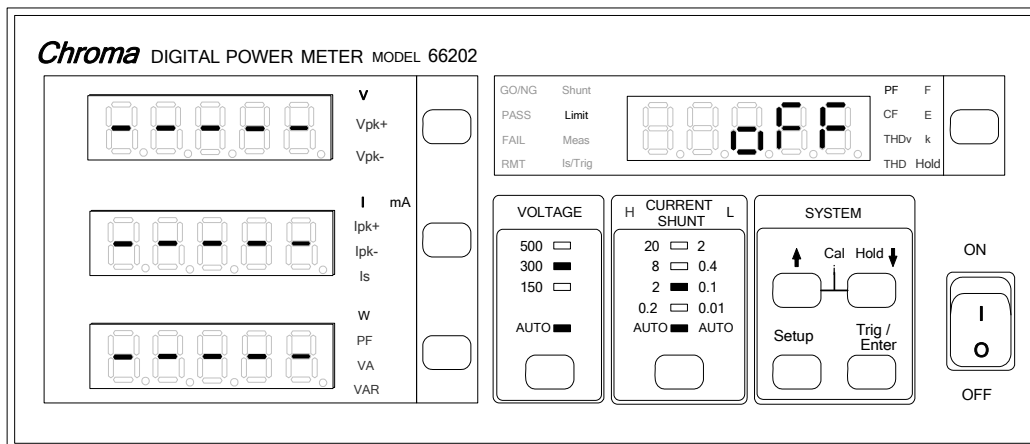

Figure 4-15 Setting Limit
1. Press **Setup** to select Limit and the indicator of Limit is on. Figure 4-15 shows the setting of Limit.